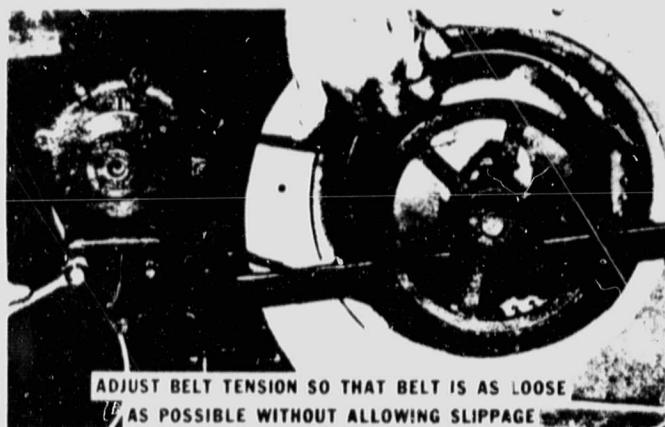
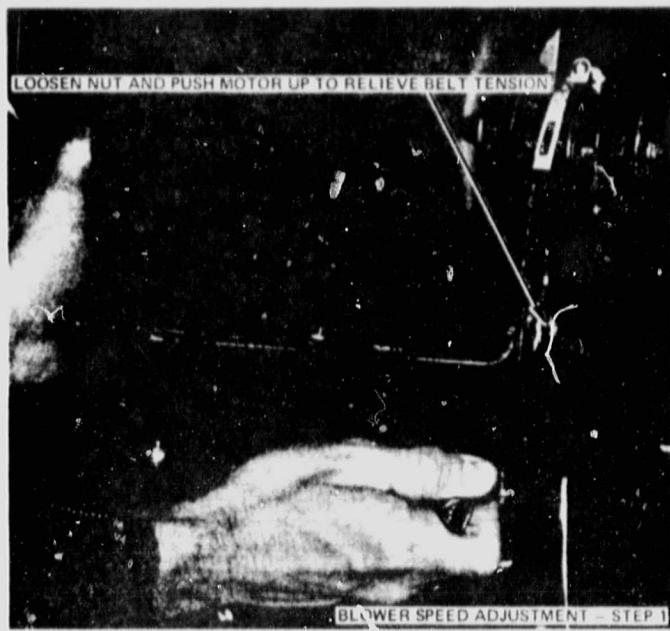
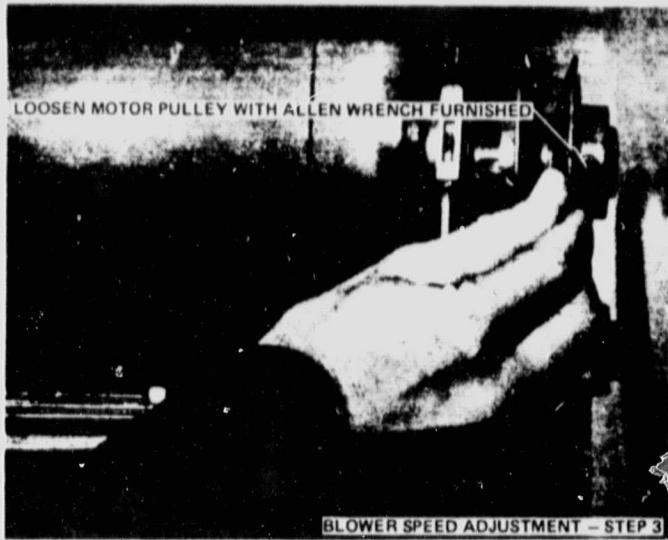
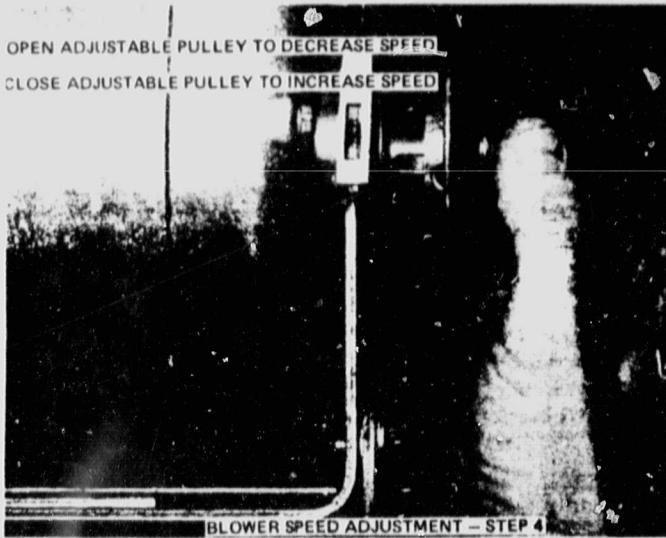

FIGURE 3
FIGURE 5
FIGURE 7
FIGURE 8
Adjust belt tension so that belt is as loose as possible without allowing slippage. See Figure 3.
- 1 - *Belt Drive (G11 units)* - Loosen nut on the blower motor housing and push motor up to relieve belt tension. See Figure 5. Remove belt as shown in Figure 3. Then loosen motor pulley with Allen wrench as illustrated ... Figure 7 and open adjustable pulley to decrease blower speed or close to increase speed. Refer to Figure 8.